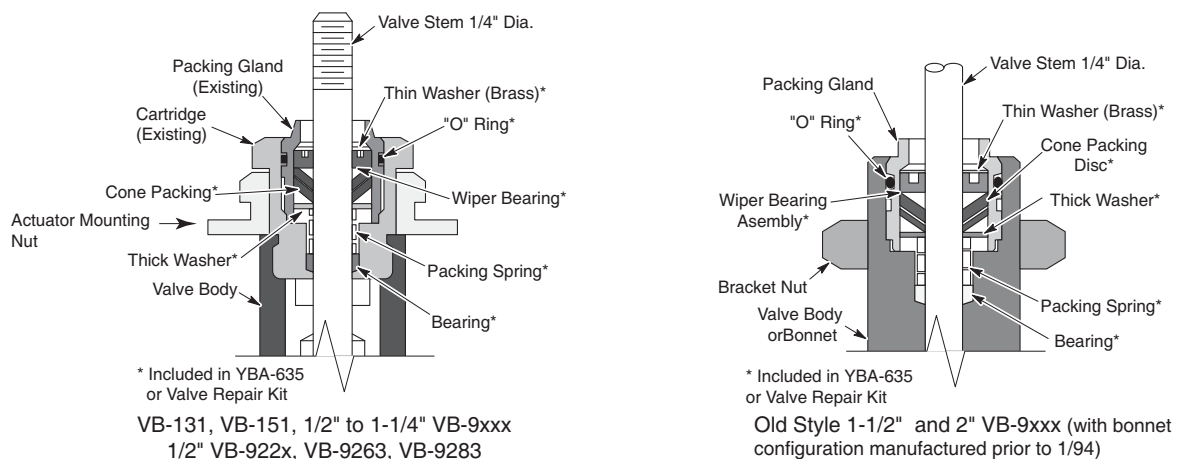

Figure-2 Installation of YBA-635 Packing Parts Kit onto Discontinued Valves
- Obsolete YBA-622 has a brass thin washer (refer to Figure-2) and white top bearing.
1. Remove existing packing gland with TOOL-20-1. Make sure that the retaining ring is brass and not stainless steel. Salvage existing packing gland (see Figure-2)
5. If applicable, slide actuator mounting nut (see Figure-2) onto valve body with threaded section pointing upwards. Install new packing per above figure.